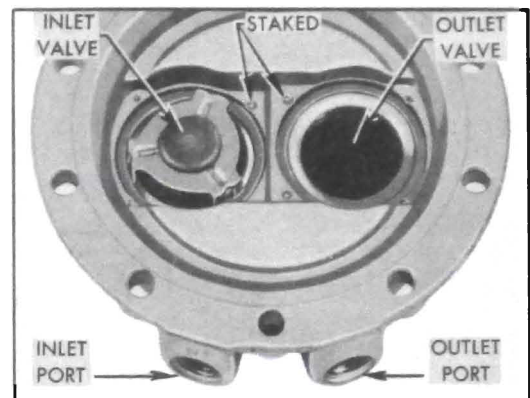

Figure 3-15—Valves in Fuel Cover
3. Place a *new* valve gasket in each valve seat in fuel cover. Place one valve in seat near the inlet port with the spring cage side facing up. Place another valve in the outlet valve seat with the spring cage side down. See figure 3-15.